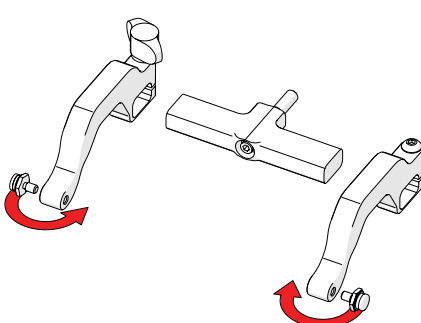

Fig. 38 - Position pivot buttons
5. Position the pivot buttons to the inside of the probe holder arms (Fig. 38).